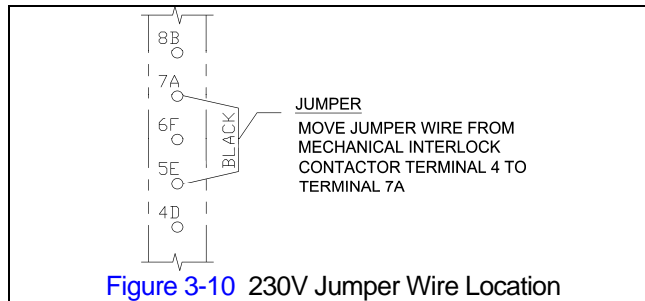

Figure 3-10 230V Jumper Wire Location
3.5.9 Voltage Change/Voltage Reconnection – Reference drawing 61364 for a complete wiring diagram. **Note: When changing voltage from 115V to 230V, the location of the black jumper wire is relocated from terminal 4 of the Mechanically Interlocked Contactor, to location 7A of the Terminal Block. See Fig. 3-10**